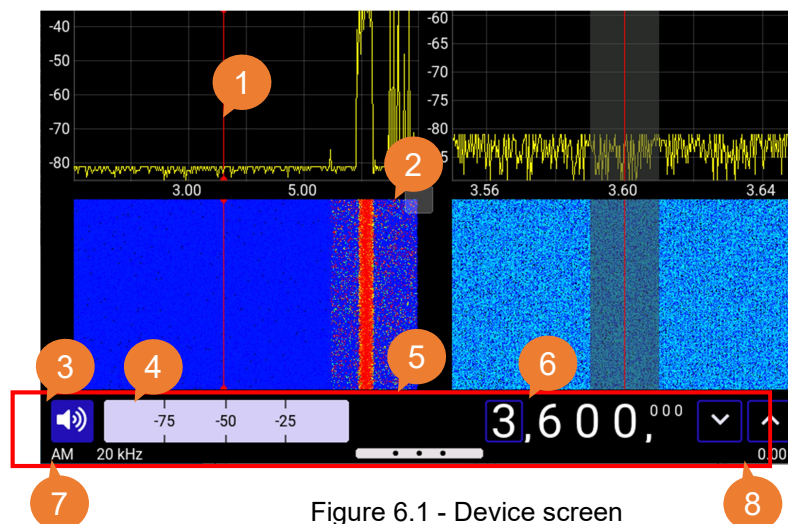

Figure 6.1 - Device screen
The main screen of the receiver is shown in Figure 6.1 and is structurally divided into several parts:
Using the «**Start muted**» switch, you can activate the mode of turning on the receiver with the built-in speaker off. You can also turn on and off the sound from the receiver interface using the volume control button (3) Figure 6.1. When the button is pressed once, the S-meter (4) is replaced by the volume slider. When you press and hold the volume control button for a long time, the sound is turned on (if the sound was turned off) and vice versa.